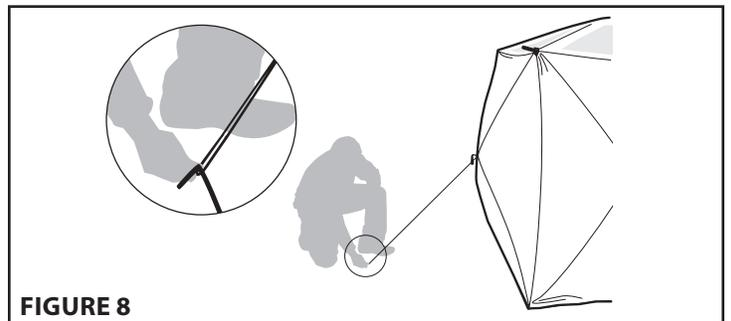

FIGURE 8
- Move outside of your tent and begin securing your tent to the ground by using the provided stakes and tie down ropes. The stakes can be fastened through each of the tent grommets and the tie down ropes can be tied around hub eye-bolts and tightened to a stake in the ground. Use adjustment slides on the rope to achieve proper tension. [ SEE FIGURE 8 ]